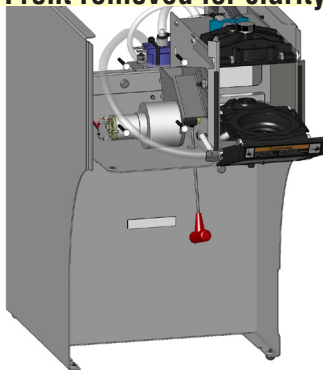

FIG 21-2 Loosen bottom Allen screw.
5. Remove plastic plug from ejector floor. Insert Allen wrench through hole and loosen bottom Allen screw (farthest from motor). FIG 21-2.